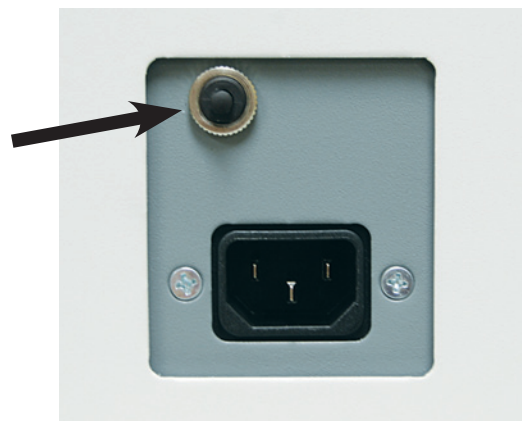

Figure 9
**Note:** Press the black button (Figure 9) near the power cord inlet to reset the breaker if necessary.
3. Press the circuit breaker (Figure 9).